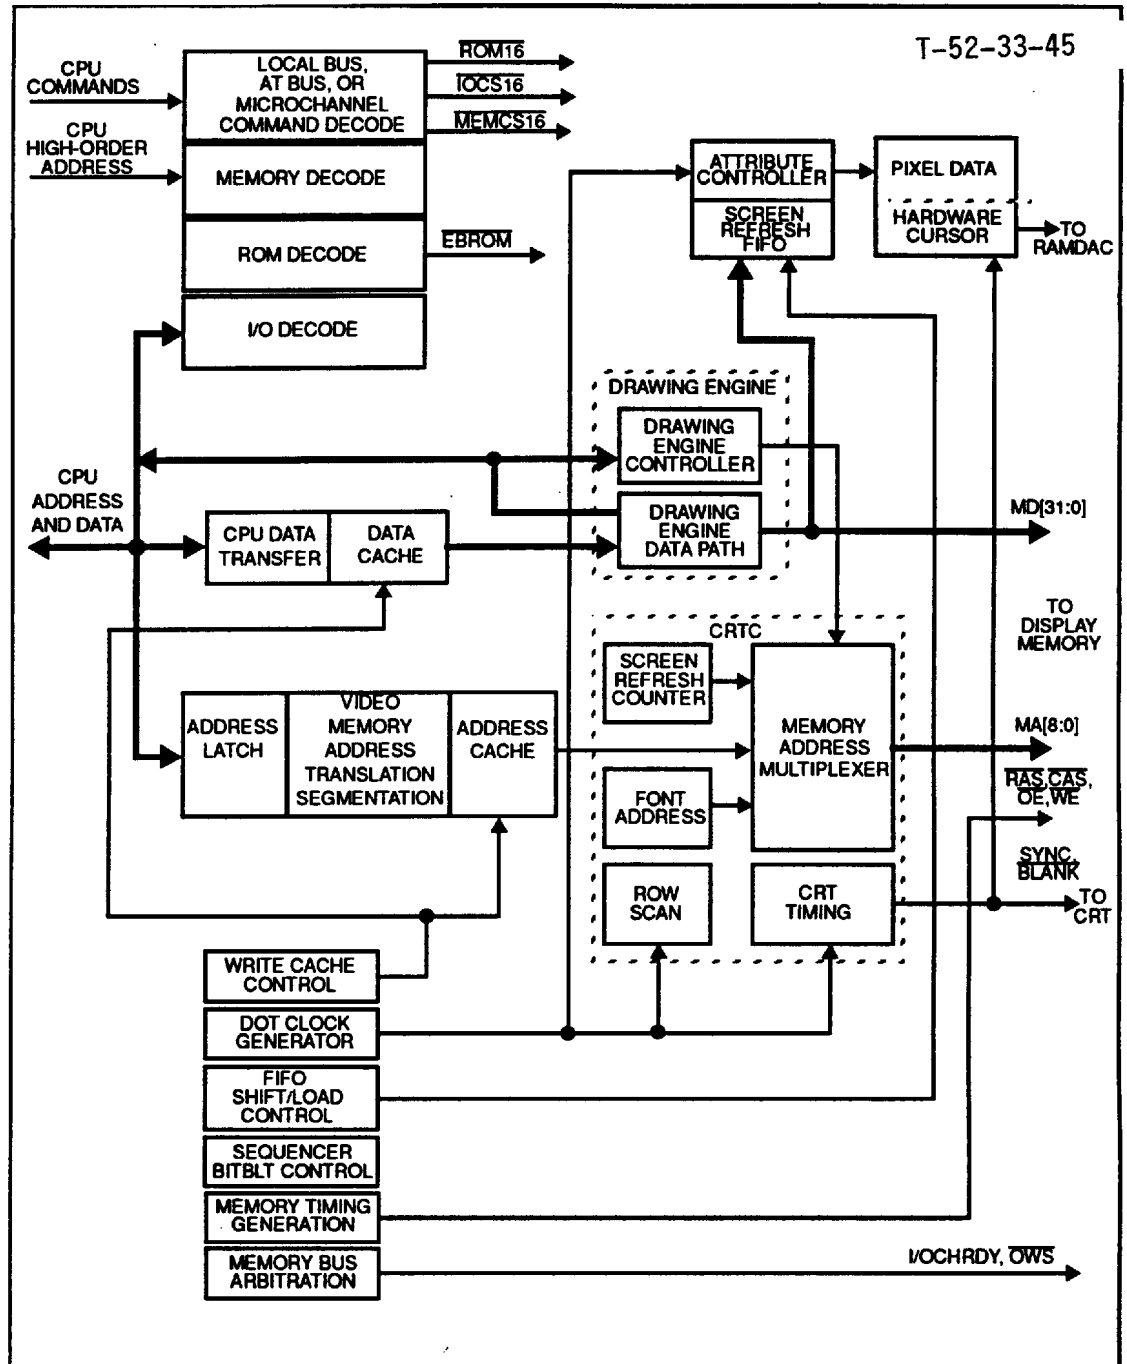

FIGURE 3-2 WD90C33 BLOCK DIAGRAM
- Figure 3-2. WD90C33 Block Diagram
The WD90C33 is designed to interface directly with the 386/486 CPU 32-bit local bus (see Figures 3-2 and 3-3). It also complies with the VESA local bus standard and provides the signals necessary to interface with the VESA connector. The WD90C33 also provides the interface for local bus RAMDAC, BIOS, and clock generator without using glue logic. While connected to the CPU local bus, the WD90C33 allows the user to choose whether to connect the RAMDAC to the local bus or to the system (AT) bus. The WD90C33 also supports RAMDAC write shadowing, and can interface with the video BIOS, which can be integrated with the system BIOS. Selection of the 32-bit local bus interface is determined by the state of Configuration register bit CNF(11) during power-on or system reset as described in Section 9.